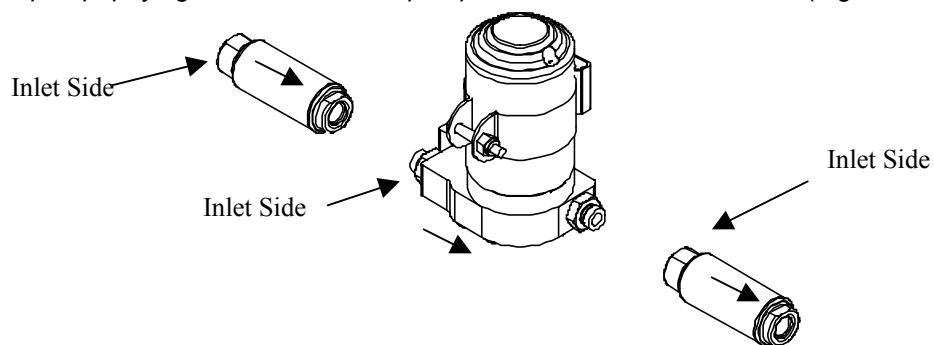

Figure 1-2
- 1-6. Apply pipe thread sealant to remaining side of 3/8-NPT hex nipples and thread Aeromotive filters on both side of Aeromotive fuel pump, paying close attention to pump and filter inlets and outlets. (Figure 1-2)